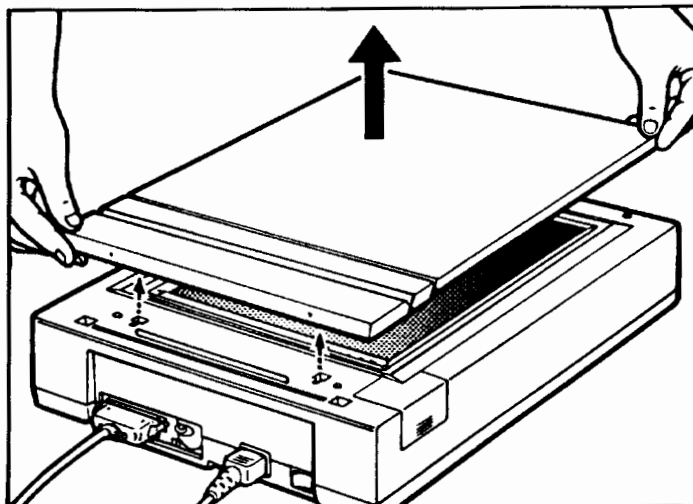

Figure D-3. Removing the Cover
4. Lift and remove the copyboard cover. Store the cover in a safe place. See figure D-3.